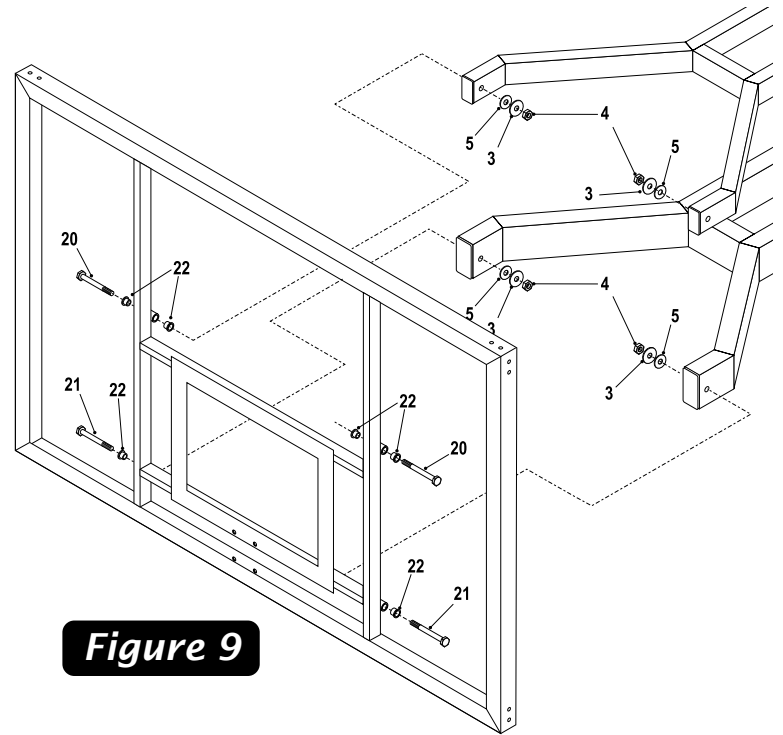

Figure 9
- With at least three capable people, raise the backboard assembly up and have the fourth attach Lower Board Arms to lower mounting tubes on backboard using two bolts (#21), four Board Bushings (#22) (shipped already installed), two plastic washers (#5), two washers (#3) and two hex nuts (#4). See Figure 9. **Do NOT over tighten these bolts. This is a pivot point. Snug is tight enough.**
- Attach Upper Board Arms to upper mounting tubes on backboard using two bolts (#20), four Board Bushings (#22) (shipped already installed), two plastic washers (#5), two washers (#3) and two hex nuts (#4). See Figure 9. **Do NOT over tighten these bolts. This is a pivot point. Snug is tight enough.**